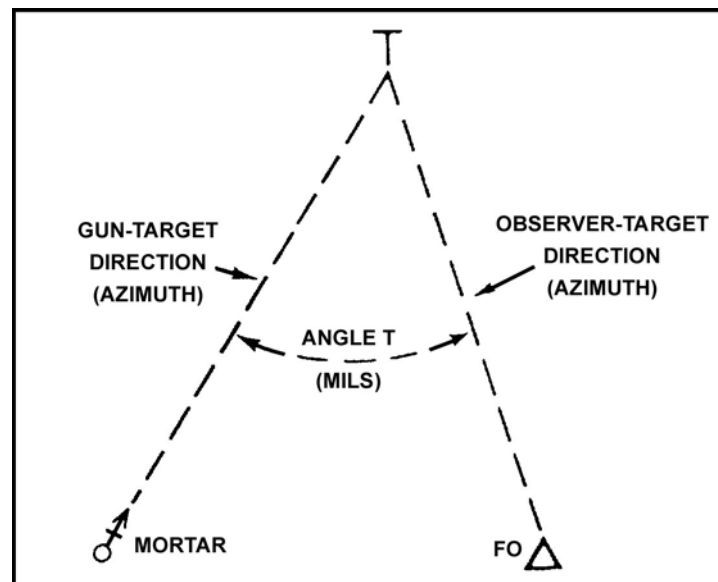

Figure 1. Angle T
1. Angle T is the difference in mils (angle) between the OT direction and gun-to-target (G-T) direction (Figure 1).